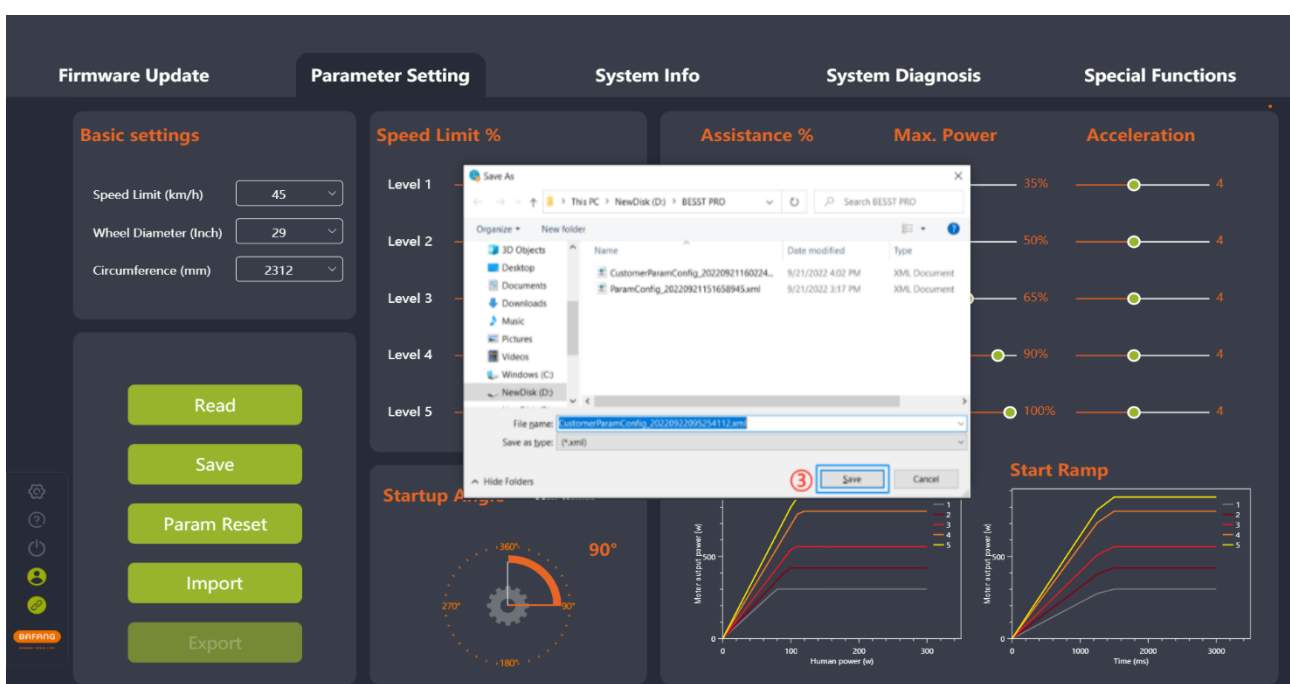

Fig. 5-20 Export
- (3) Export the configuration information of the parameter interface and the controller hardware version (for import verification) to a file and save it locally. The path can be chosen independently and the file name can be edited, for example, CustomerParamConfig\_20220922095254112.xml (Fig.5-20).